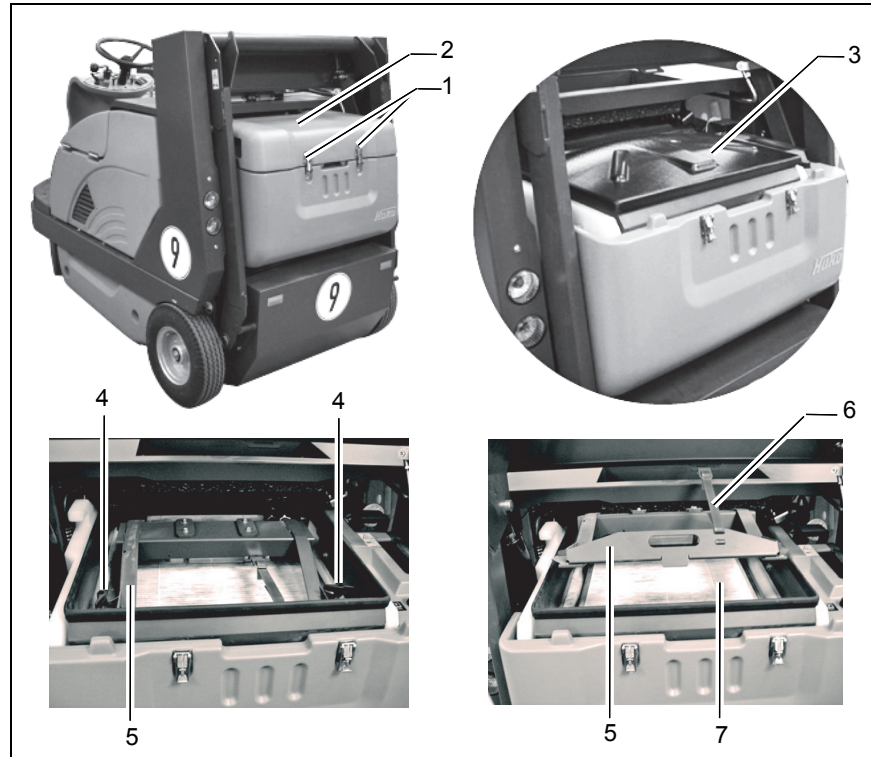

Fig.15
3. Open quick-release locks (Fig. 15/1) and remove cover (Fig. 15/2).
4. Remove cover (Fig. 15/3) of the filter installation.
5. Loosen wing screws, four pieces, (Fig. 15/4) and remove.
6. Fold back frame (Fig. 15/5) and hook frame (Fig. 15/5) at indicated position by rubber fastening (Fig. 15/6).
7. Remove plate filter (Fig. 15/7).